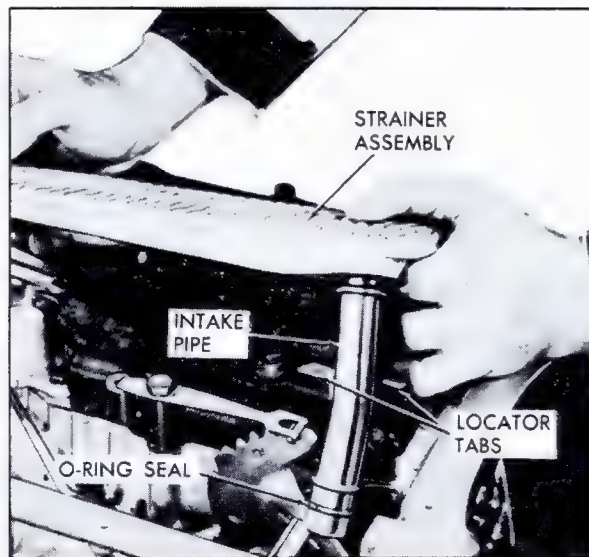

Fig. 7-45 Removing Intake Pipe and Strainer Assembly
4. Lift out pump intake pipe and strainer assembly, Fig. 7-45.